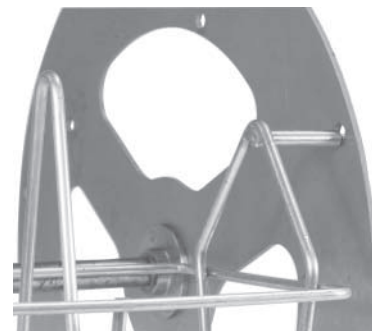

Fig. 23
2. Fit notched end of Rack or Basket into appropriate holes on drive side of the rotor (Fig. 23). Ensure accessory is level.